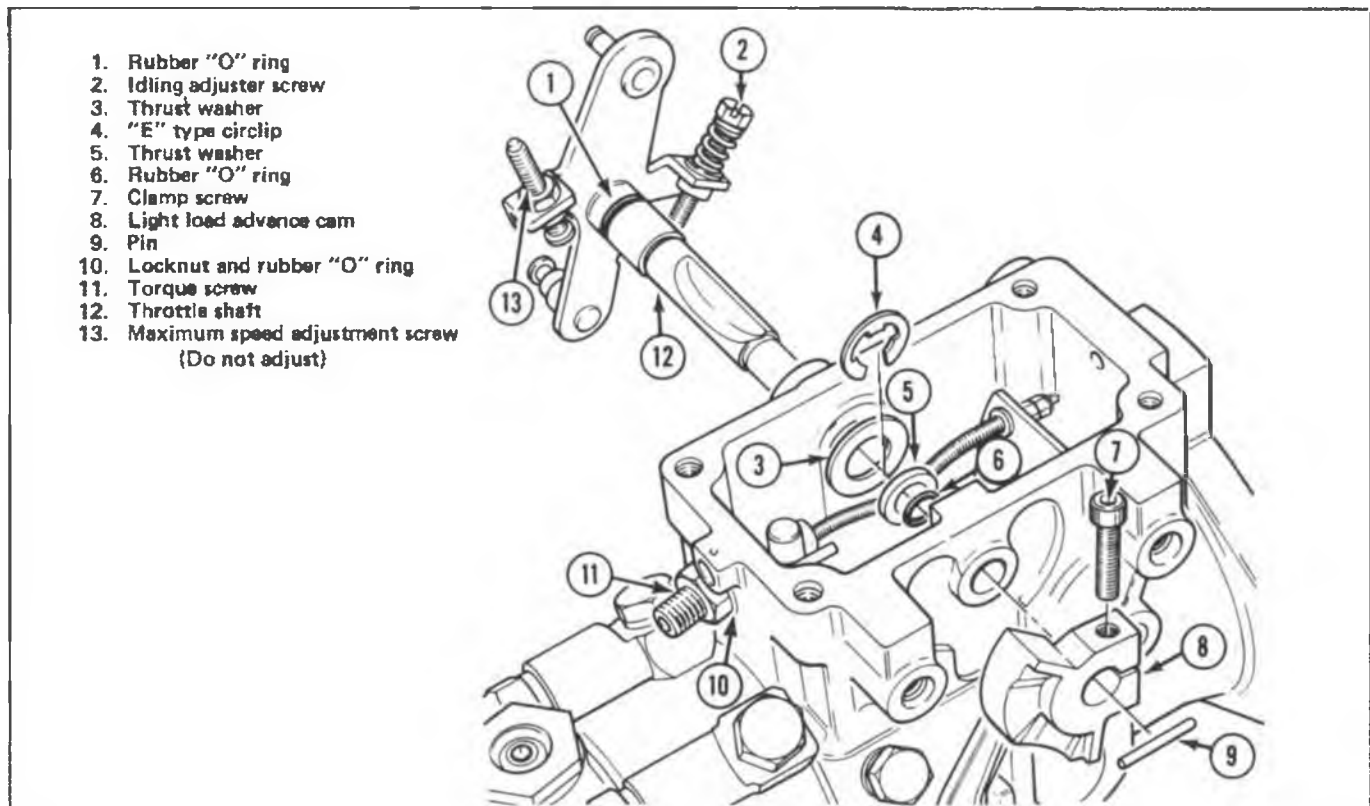

Fig. 3-14 CAV Pump Throttle Shaft and Seats
7. Remove the lock pin from the throttle shaft (Fig. 3-14).
10. Remove the clamping screw from the light load cam and remove the cam. Remove any burrs on the end of the shaft (Fig. 3-14).
11. Remove the "E" circlip from the throttle shaft. Be careful not to drop it into the interior of the pump (Fig. 3-14).
12. Pull the throttle shaft out of the pump. Remove the smaller "O" ring first, thrust washers and larger "O" ring noting their position. Discard the "O" rings (Fig. 3-14).